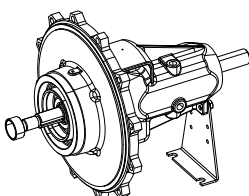

Fig. 35: Slide-in unit
- See fig. 35: Push the distance ring onto the shaft.